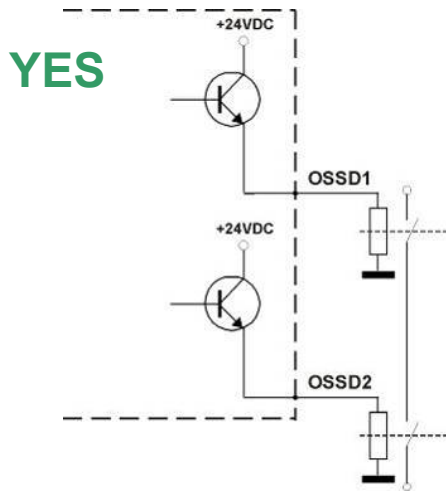

Fig. 17
- The OSSD1 and OSSD2 safety contacts cannot be connected in series or in parallel, but can be used separately (Fig.17), conforming to the plant's safety requirements.